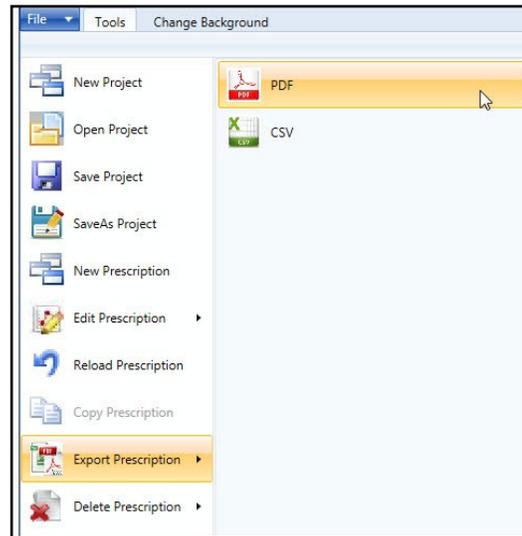

Figure 34-1 Export to PDF
1. Select **Export Prescription** in the VRI drop-down menu and click on **PDF**. See Figure 34-1.